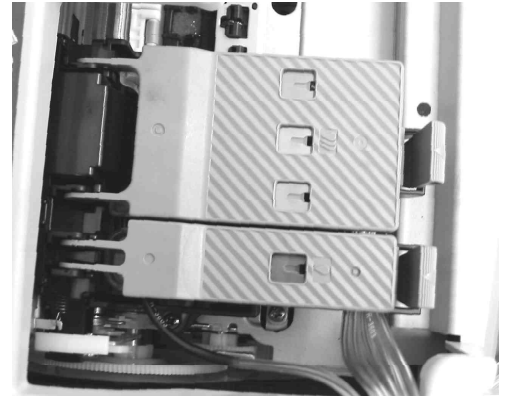

Fig. 7
4. Close the cartridge holder lids until they snap into place. Tubing will protrude from beneath the black cartridge lid and should sweep towards the right side of the printer. The black tubing will protrude towards the back of the printer. See Fig. 7.